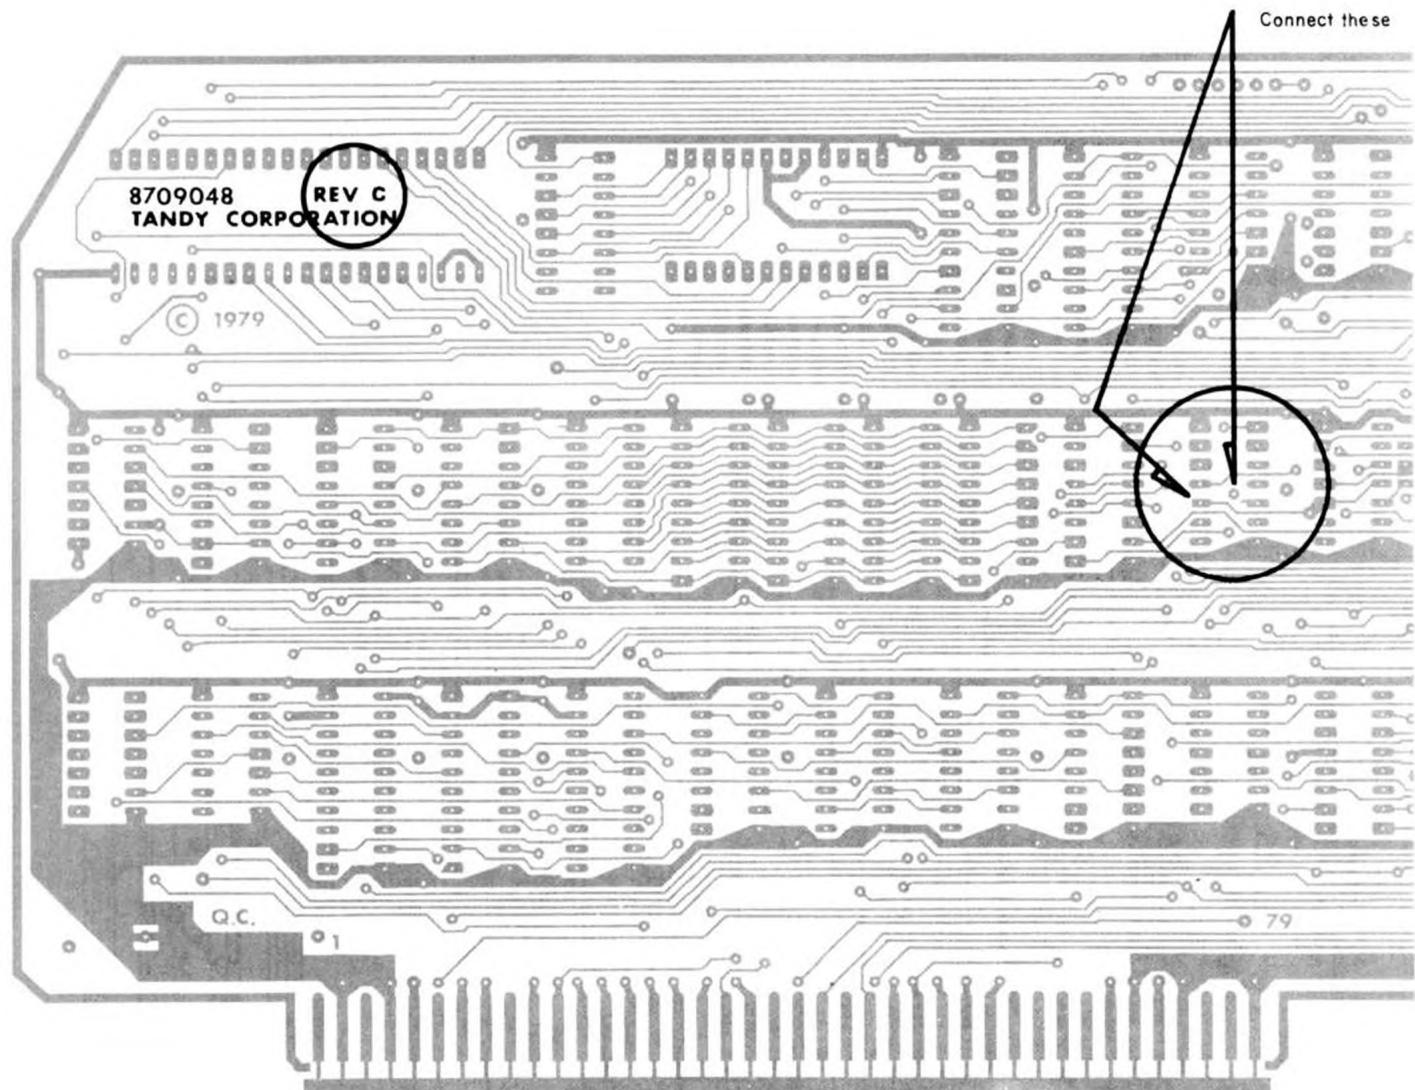

Figure 1
**PROCEDURE:** On the solder side of the board there is a feedthru located beneath the middle of U17 that is not connected to anything. Run a short piece of wire from that feedthru to U17 Pin 10 (Refer to Figure 1).